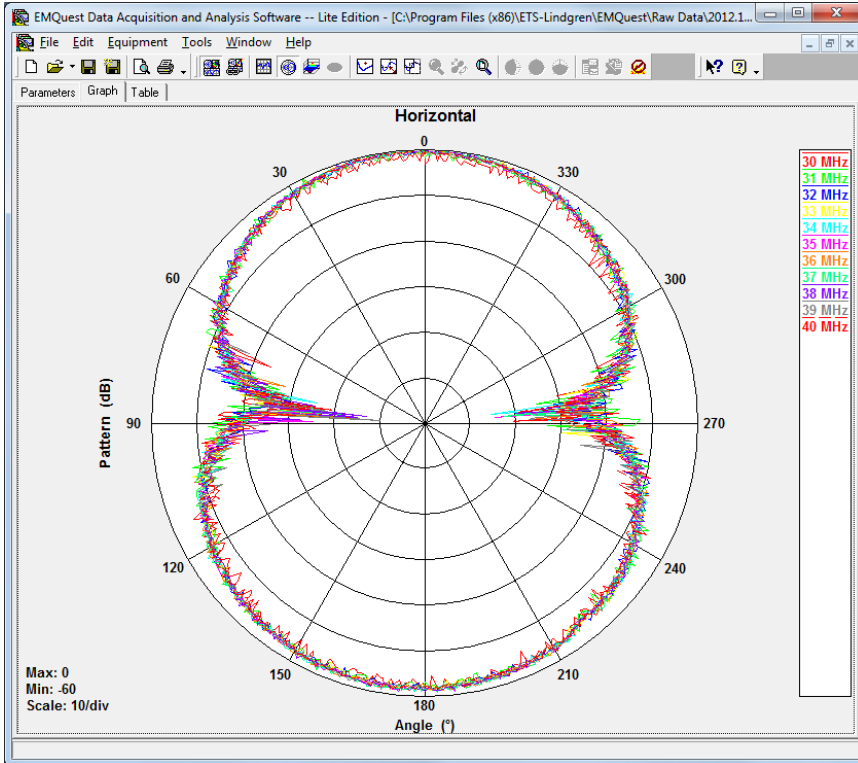

Figure 15. Radiation pattern (all traces).
12. The resulting plot is shown in Figure 15 below, where all traces are plotted together: